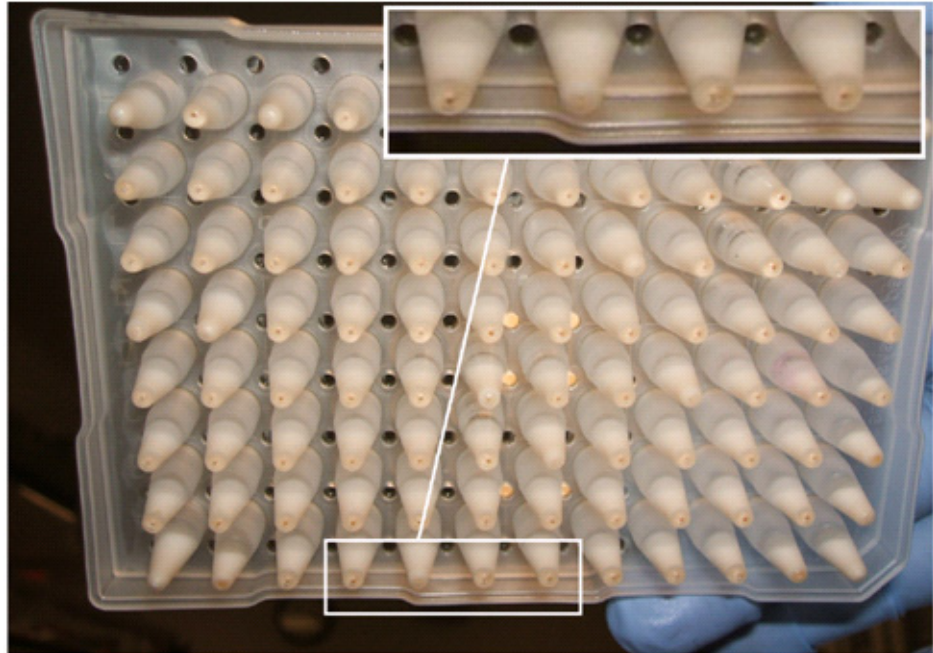

Figure 16 Broken emulsions.
- After the ePCR Program finishes, inspect the bottom of the reaction plate for beads that fell out of the emulsion. Beads appear as amber-colored specks at the bottom of a well. A small number of beads may fall out of emulsion and appear as small brown flecks at the bottom of a well. Applied Biosystems does not recommend any further processing of emulsions that have more than 3 wells of broken emulsion, where aqueous phase appears at the bottom of a well (see Figure 16 on page 22).